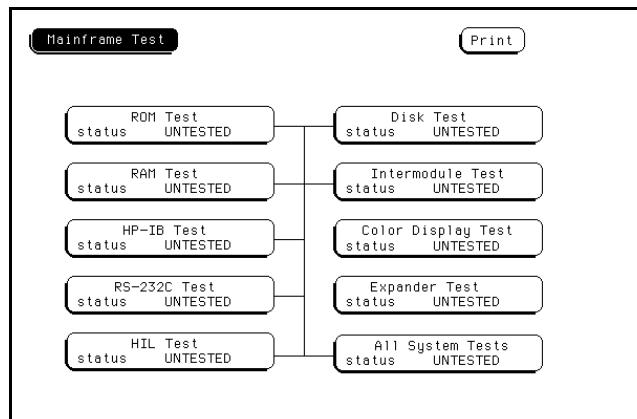

Figure 6-7. Mainframe Test Menu
5. Touch the **Test System** field, then touch **Mainframe Test** from the pop-up menu. The Mainframe Test menu is displayed. See figure 6-7.